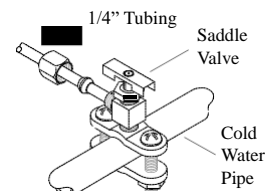
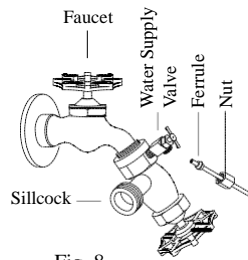

Fig. 7
Fig. 8
- **Connect water supply line.** Find the closest supply of water. Use a saddle valve (Fig. 7) to connect 1/4" tubing to the cold water supply or use a Sillcock and water valve connected to an outside faucet (Fig. 8). Place the nut and ferrule on the tubing and tighten the nut until watertight. **IMPORTANT:** Do not connect the water supply to any soft water applications. Soft water will cause corrosion and decrease the life of the cooler.